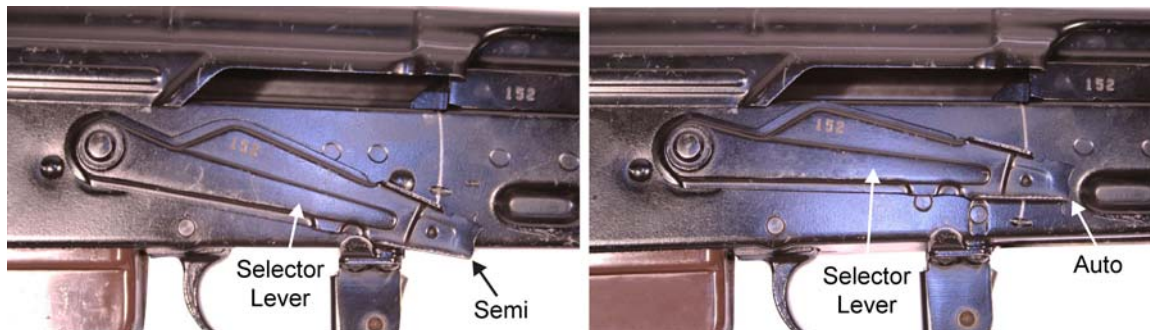

Figure 3. Selector Lever on SEMI (left) or AUTO (right).
6. Place the selector lever on SEMI or AUTO. Refer to Figure 3.